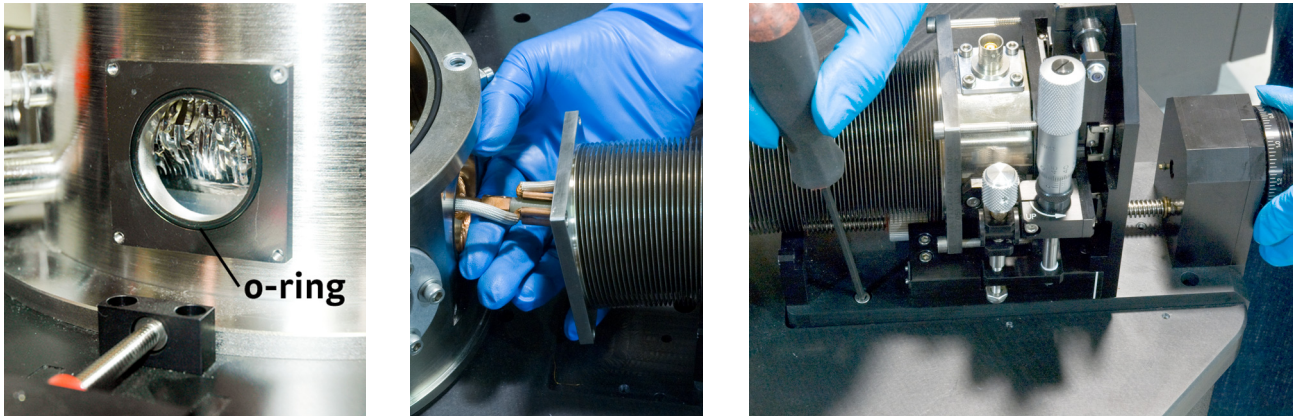

FIGURE 5-2 Left: Remove the screws from the slide insert; Right: Secure the slide insert to the arm stage location
3. Using the 2.5 mm hex driver, remove the two M3 screws in the slide insert from the bottom of the new stage (FIGURE 5-2).
4. Position the slide insert onto the arm stage location so that it is facing as illustrated (FIGURE 5-2) and secure the insert to the arm stage location.